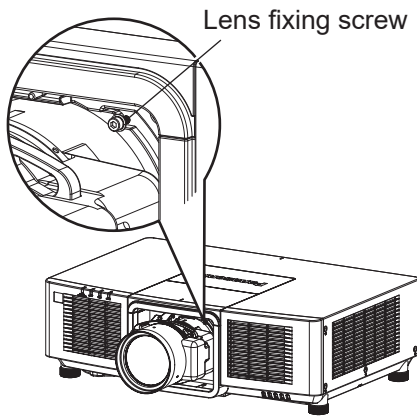

Fig. 1
- 1) **Remove the dustproof sponge. (Fig. 1)**
- For a projection lens other than the Zoom Lens (Model No.: ET-EMU100), remove the screw on the right of the projection lens using a ball point hex driver. (Fig. 1)